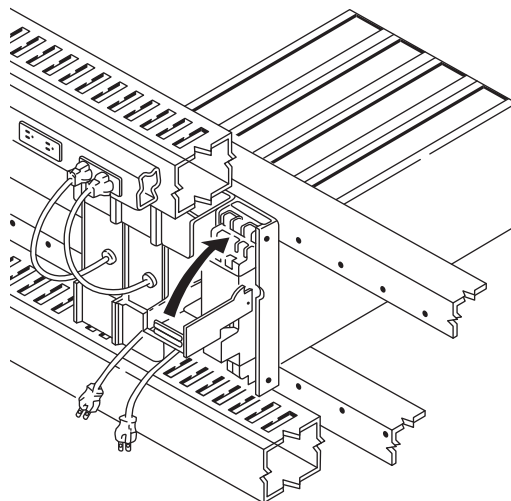

Figure 2.8 **Placement of Internal Unit**
- (5) Replace the cover on the terminal section. If the instrument has a power cord, insert the power plug into the receptacle above the instrument (see Figure 2.8).